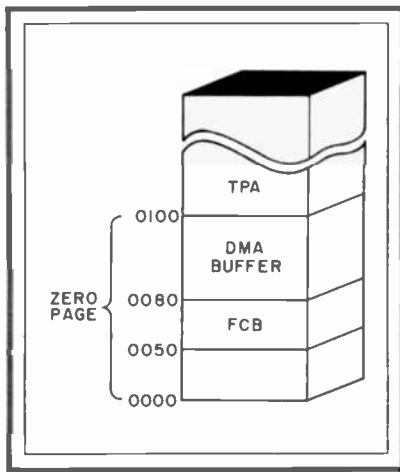

Fig. 9. BDOS uses both DMA and FCB to communicate with the program.
**Talking to BDOS.** When it's reading or writing information from and to the disk, the Basic Disk Operating System (BDOS) uses two areas of memory to communicate with the program calling it—the DMA buffer and the File Control Block (FCB), as shown in Fig. 9. Understanding the DMA and FCB and how they're used is the key to understanding CP/M disk system calls. DMA and FCB are located at 005C and 0080 in memory, just below the start of TPA at 0100. This puts it in the "zero page" portion of memory, which starts at 0000H and ends at 00FFH.